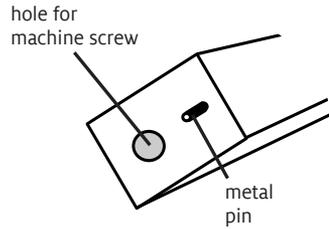

FIGURE 6: TREADLE SUPPORT
**11.** Attach the height extender blocks to the treadle assembly: insert the metal pins from the treadle support (Figure 6) into the small holes and the metal treadle bar ends into the 2nd hole from the bottom of the height extender blocks. Insert the saved barrel nuts into the treadle support and thread new 1/4-20 x 2-1/2" Phillips truss head machine screws into them, from the outer side of the height extender blocks through the bottom holes. Use a slotted screwdriver to hold the barrel nut in position. Secure the treadle support firmly.